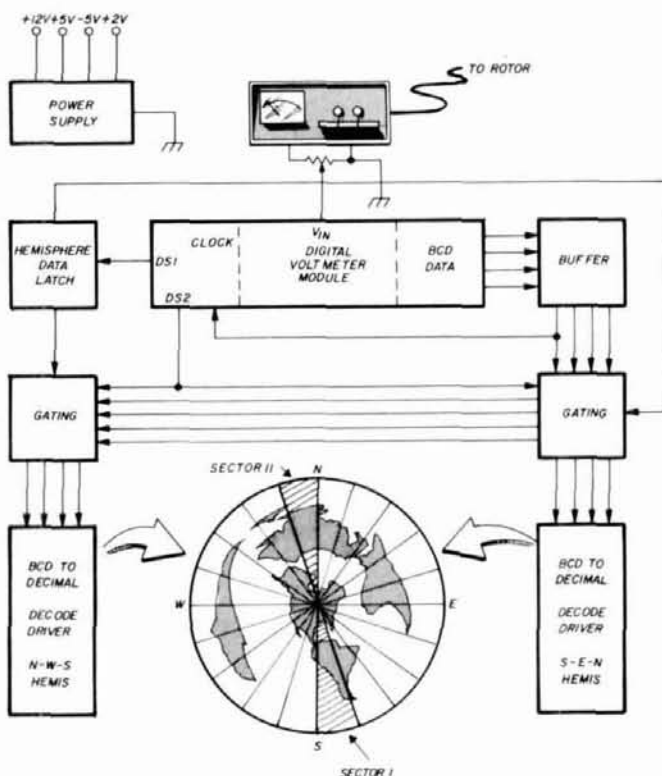

fig. 1. Functional block diagram of the solid-state antenna position display. The entire system is based on a 3-1/2-digit DVM IC manufactured by Motorola.
Putting together his requirements, I came up with the block diagram shown in **fig. 1**. The power amplifier had to have enough gain to produce roughly 80 watts output from 2-watts input; this amounts to 16 dB gain. A little more gain wouldn't hurt, because there are sure to be losses between the input to the entire circuit and the input to the power amp. The attenuator is switched into the circuit when low-power operation is desired. As it turned out, the attenuator wasn't that simple.
**fig. 1.** Block diagram of the 10/80-watt amplifier for 2 meters. The switched attenuator is used to vary the drive level into the amplifier to switch between 10- and 80-watt power levels.
The switched attenuator shown in **fig. 1** is drawn schematically in **fig. 3(A)**. It is a tee configuration in which PIN diodes are used to add or remove resistors that are in parallel with the elements of the attenuator. PIN stands for "P-intrinsic-N" and describes regions of P and N semiconductor material that have a piece of undoped or "intrinsic" silicon sandwiched between them. This construction gives the PIN diode its unique properties. For low-frequency signals, the device behaves like a conventional PN-junction diode. At uhf, the diode is a current-controlled resistor. For high-forward current, the series resistance is low. For low-forward current, the series resistance is high. Reverse biasing the PIN diode further raises its series resistance. An ideal PIN diode should not rectify rf, but in the real world these diodes do rectify and this must be dealt with in rf-switching applications.
The last block in **fig. 1** is the rf detector and T/R switch. The detector, CR3, is simply a rectifier with a low enough reverse recovery time to be effective at 150 MHz. The rectified rf signal is used to forward bias the relay driver, Q1, which in turn energizes K1 during transmit operation. The relay closes when approximately 0.7 watt of power is fed to the input jack of the amplifier. The relay contacts are used to switch the bias to the PIN diodes in the actual T/R switch. These PINs are CR1 and CR2 at the amplifier input, and CR8 and CR9 at the output.
The display background itself is a polar great-circle map of the globe divided into twenty 18-degree sectors. With a 0 to 1.99 volt input signal swing and a maximum 360-degree rotation, each sector corresponds to an increment of 100 mV. Each hemisphere corresponds to an increment of 1 volt of analog input signal. For example, as seen in **fig. 1**, sector 1 is displayed when the input potential to the MC14433 has any value from 0.0 to 0.1 volt. This corresponds on the map to the sector between 180 and 162 degrees in the S-SE quadrant of the Ham II meter scale. Likewise, sector 11 would be displayed when the input voltage is between 1.0 and 1.1 volts,
Fig. 1, the block diagram, and fig. 2, the schematic, show the signal and logic flow from the input of the A/D converter to the sector indicator. The analog signal between 0 and 2 volts is applied to pin 3, the analog input, from the voltage divider, R5, which accepts the 13-volt signal from the rotor. C3 and R7 are used to provide RFI immunity.
fig. 1. Frequency spectrum of an FSK system on 20 meters. (A) shows the ideal spectrum, with the mark being the higher of the two frequencies. In all cases, the information bandwidth is not considered. In (B), you can see the consequences of improper carrier balance and poor upper-sideband suppression when using an audio tone to generate an FSK signal. The spectrum when the sideband filter does not properly suppress harmonics is seen in (C).